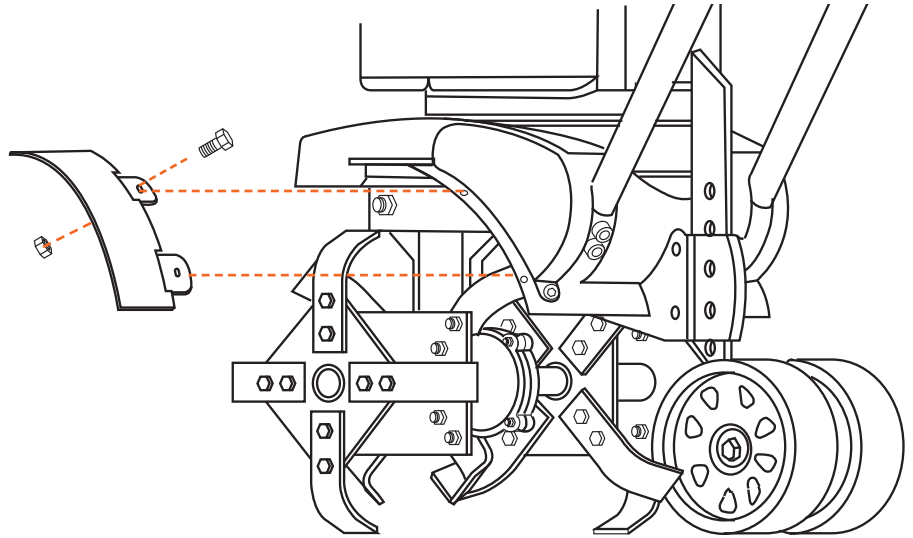

Figure 9
1. There are left and right hand Safety Shields. Each has two holes drilled through a mounting tab. Align the mounting tab with the holes drilled in the tiller and secure with a hex bolt through the top and a hex nut underneath the safety shield in two places on each side (see Figure 9).